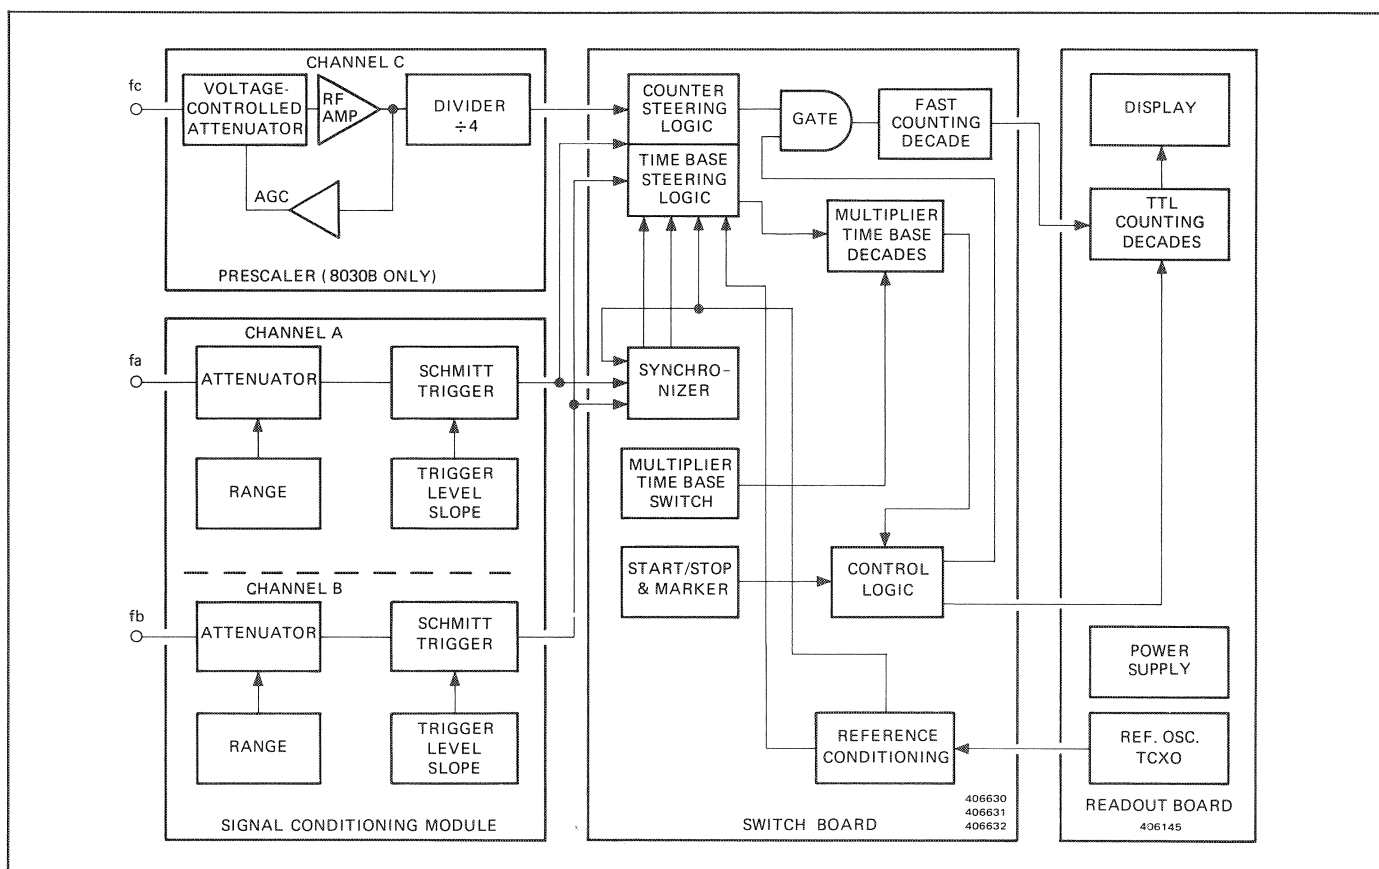

Figure 4.11 - Functional Block Diagram (All Models)
4.38 A block diagram of the counter is shown in figure 4.11. The circuit descriptions to follow make reference to the schematics in Section 6 as well as to partial schematics within this section.